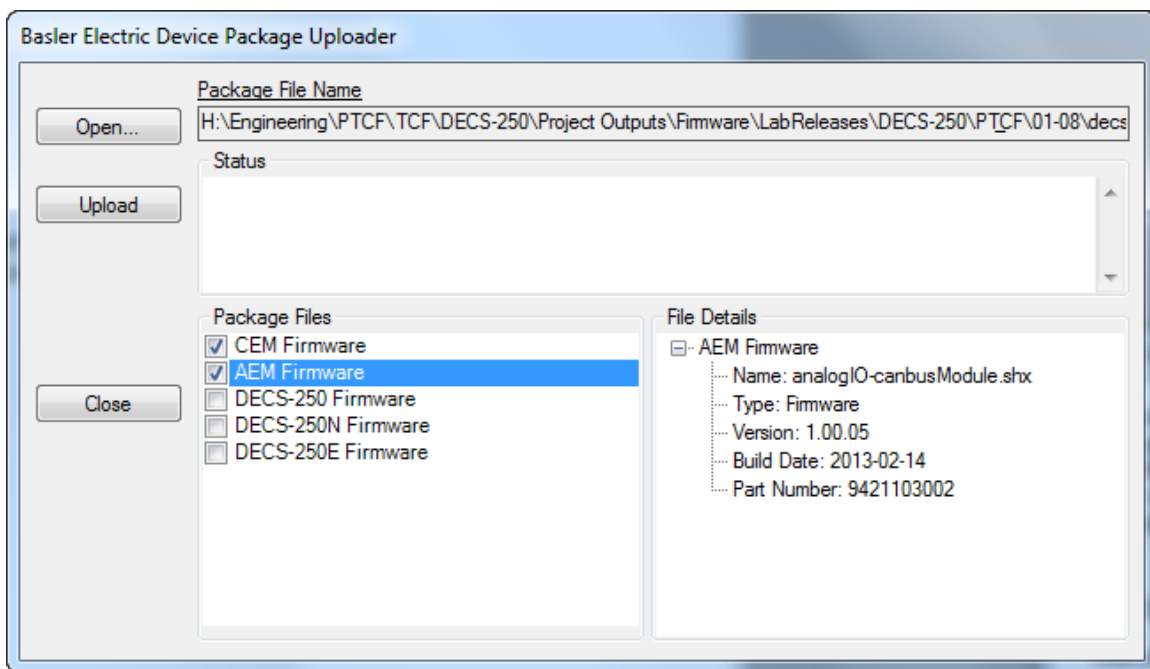

Figure 19-12. Basler Electric Device Package Uploader
8. When the Basler Electric Device Package Uploader screen (Figure 19-12) appears, click on the Open button to browse for the device package you have received from Basler Electric. The Package Files along with File Details are listed. Place a check in the boxes next to the individual files you want to upload.